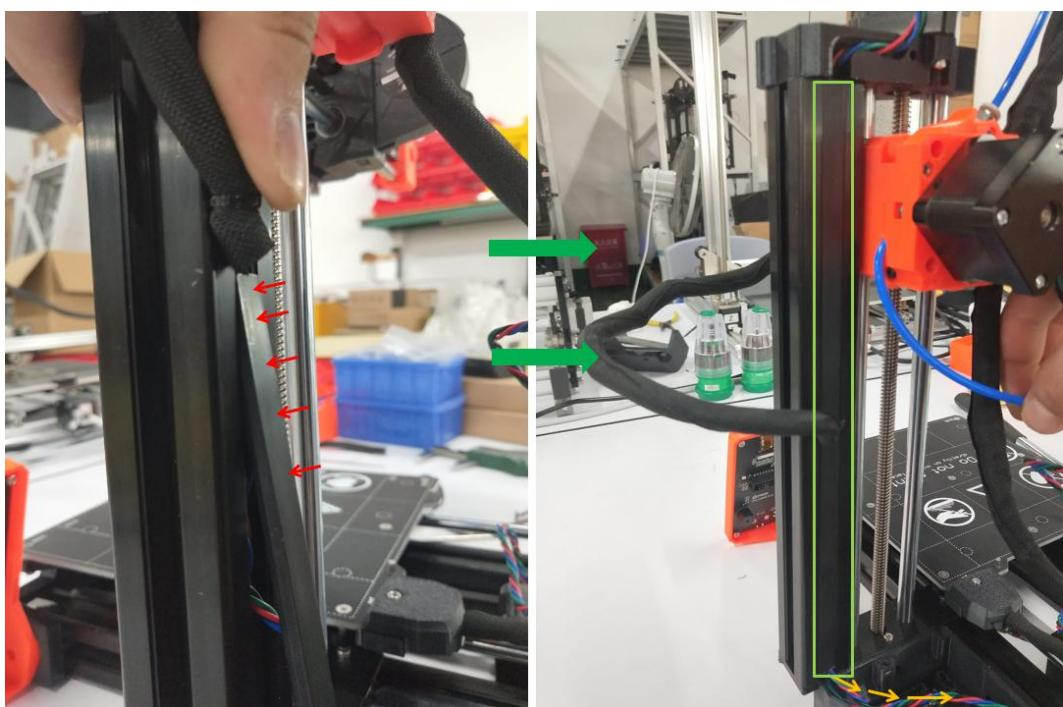

Figure 4.2.7
**Step 4-2-7:** As shown in Figure 4.2.7, insert another profile cover into the profile groove and wrap the X-axis and Y-axis motor'cables.